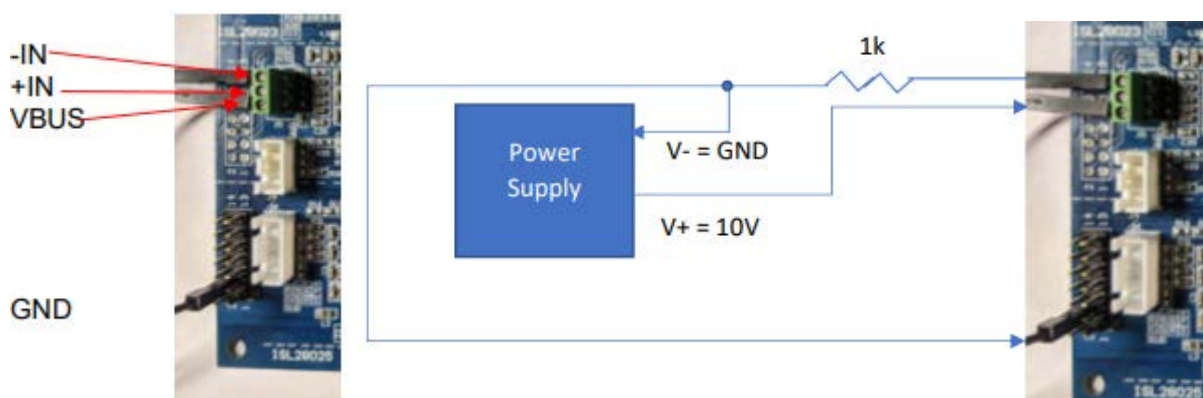
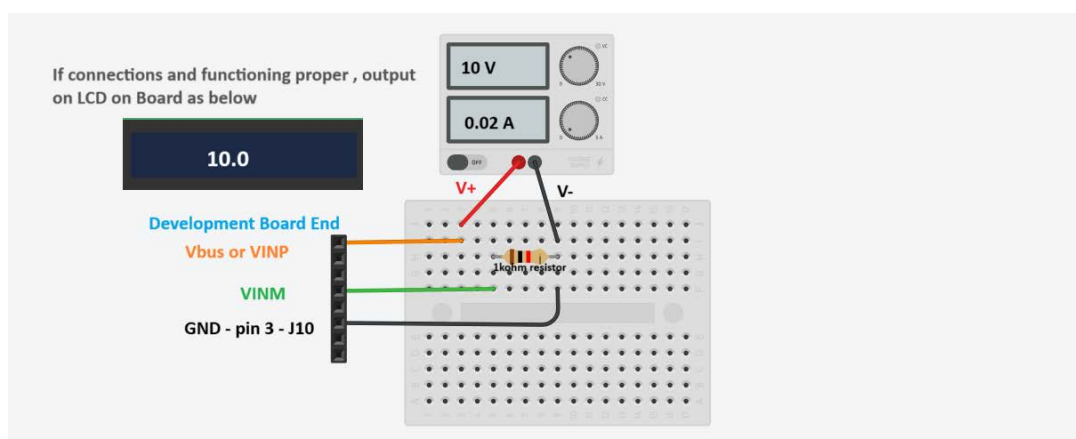

Figure 5. Pinout Board Connections, Left
Figure 6. Simplified Overview to Input Connections and Expected Output
The setup for this receiver board assumes that the user has a 4mA to 20 mA transmitter; although, the testing functionality can be verified using the following: a DC source power supply, a resistor, a few wires, and a breakout board. Refer to Figure 5 and Figure 6 for connection diagrams.
(Refer to Figure 6 for a simplified view of the input connections and expected output.)
- First, refer to the pinout board connections shown in Figure 5 (left), which includes labels for the +IN, –IN, VBUS, and GND terminals.